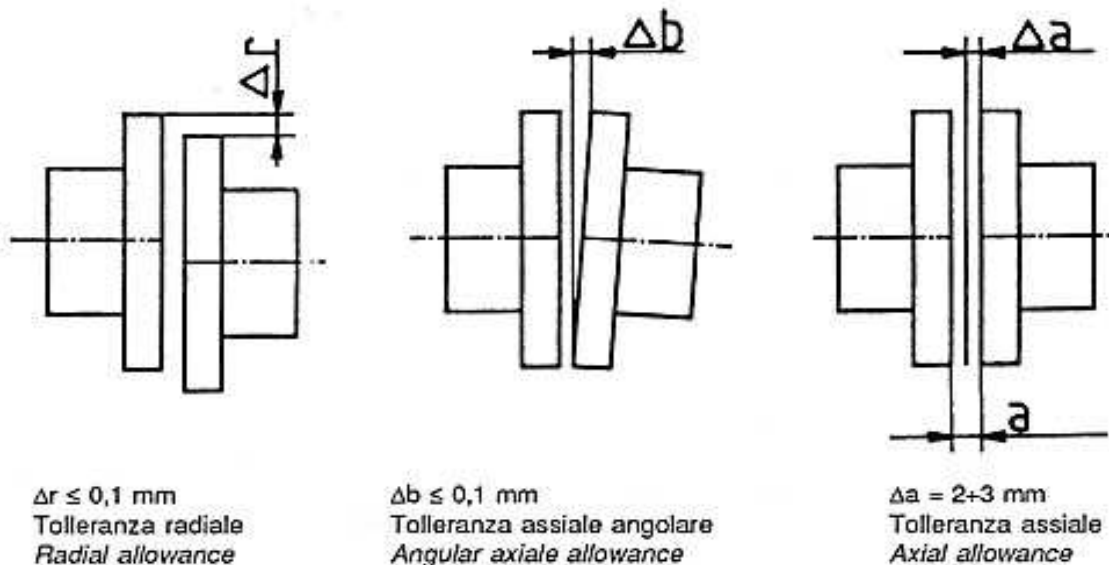

Fig. 3 – Indicative tolerance values for coupling
- Draw up the locking screws completely, repeat the measurements and if the alignment is accurate, insert the dowel pins between the motor and the base. For approximate radial and axial tolerance values, refer to fig. 3.